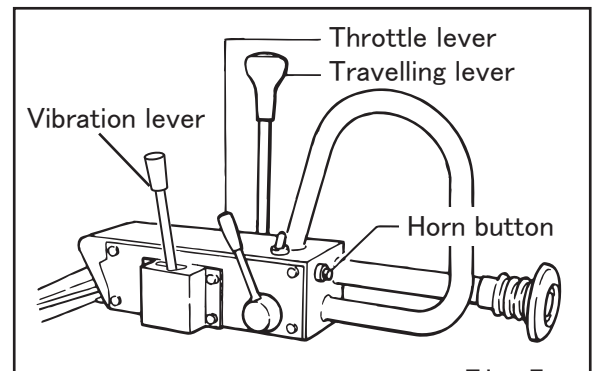

Fig. 7
- Check each lever and wire (travel, vibration, throttle) for proper function.(Fig.7)
- Press horn button to check for proper function. (Fig.7)
- With throttle lever fully opened, increase the engine rotation. (Fig.7)
- With travel lever and vibration switch placed in neutral and OFF position respectively, return throttle lever to START position before conducting cool down run for 3 to 5 minutes. (Fig7, 8 and 15)